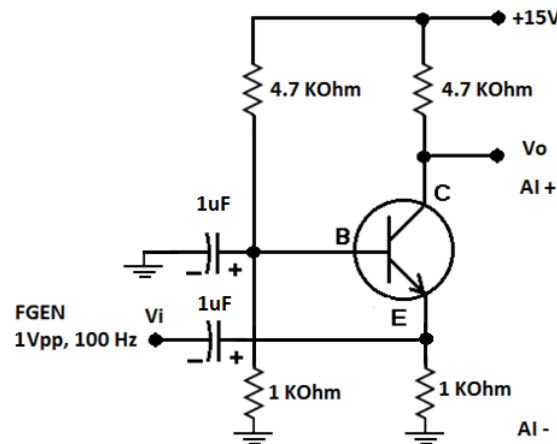

Figure 10.7: Common Base Amplifier
1. Connect the circuit as shown in the figure 10.7.